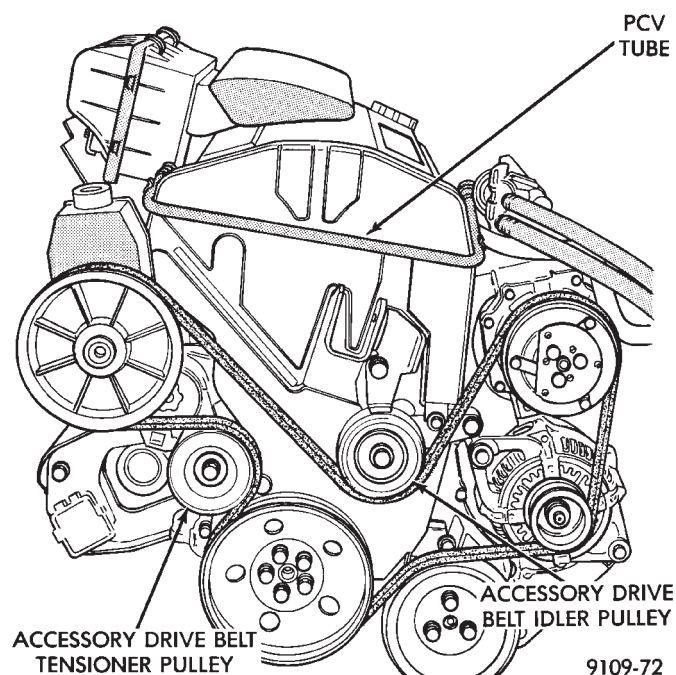

Fig. 7 Accessory Drive System
(2) Remove Accessory Drive Belt. Refer to Cooling System Group 7 for procedure.
(3) Remove accessory drive belt idler pulley (Fig. 7).
(9) Remove timing belt. Refer to procedure outlined in this section.
(10) Remove 2 bolts holding solid mount compressor into place. Rotate bracket off engine (Fig. 7).
(5) Install accessory drive belt tensioner pulley (Fig. 7).